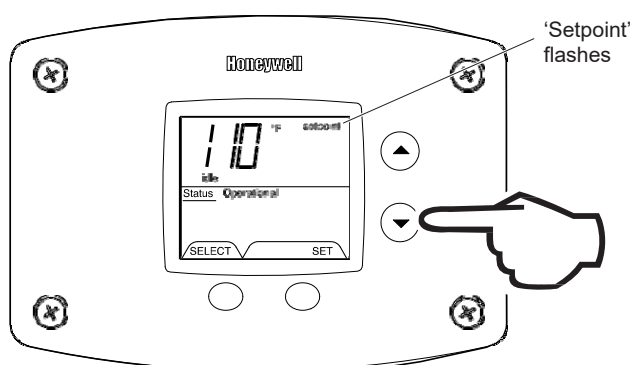

Fig. 29
2. 'Setpoint' indicator begins flashing in the display after pressing 'Temperature Down' button (Fig. 29).